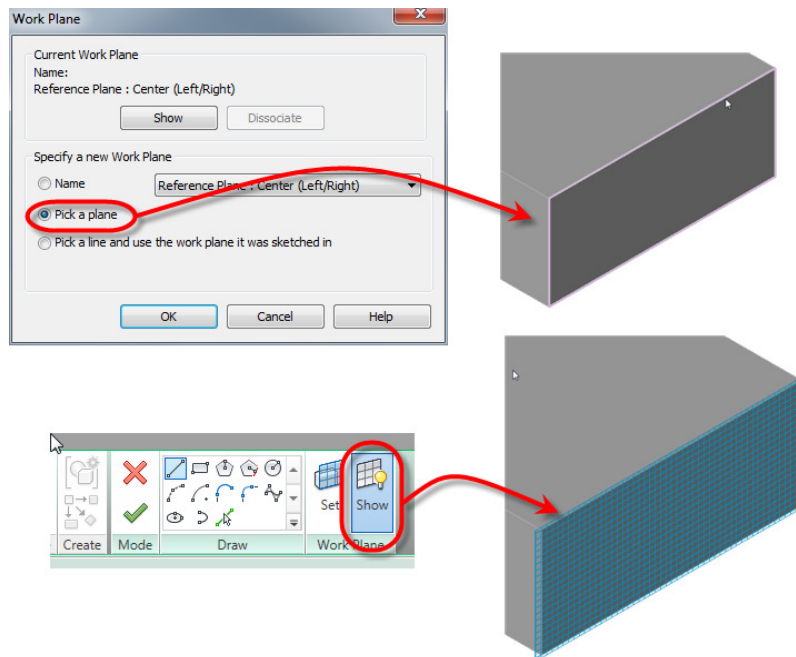

Figure 29. Setting the Work Plane using existing geometry.
6. From the ribbon, click the **Set** tool to set the Work Plane. In the Work Plane dialog, click **Pick a plane**, then click **OK**. Select the right face of the VAV Box Body as shown in Figure 29 (use the <TAB> key if you're having trouble selecting the right face).
7. Click the **Show** tool on the ribbon as shown in Figure 29. It will display the current Work Plane as a transparent blue plane in the current view. When you are satisfied that the Work Plane is on the right face of the VAV Box Body, click the **Show** tool again to turn it off.